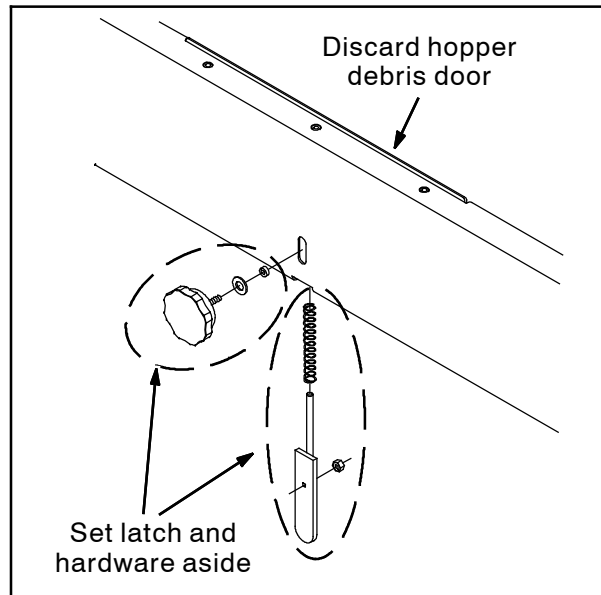

FIG. 14
- Remove the latch components and hardware from the hopper debris door. Set the latch components and hardware aside. Discard the hopper debris door. (Fig. 14)
- Install the latch components removed from the old hopper debris door in the previous step and the urethane gasket (110) into the hopper debris door (26). (Fig. 14)